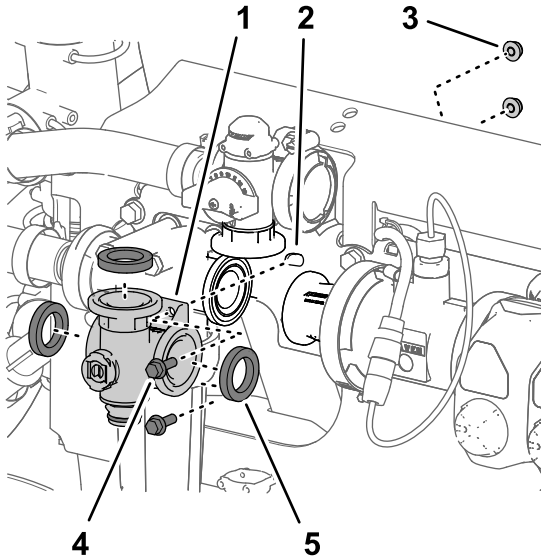

Figure 111
- Remove the 2 flange-head bolts (1/4 x 3/4 inch) and 2 flange locknuts (1/4 inch) that secure the agitation-valve manifold to the valve support (Figure 111).
- Remove the agitation-valve manifold and gaskets from the machine (Figure 111).